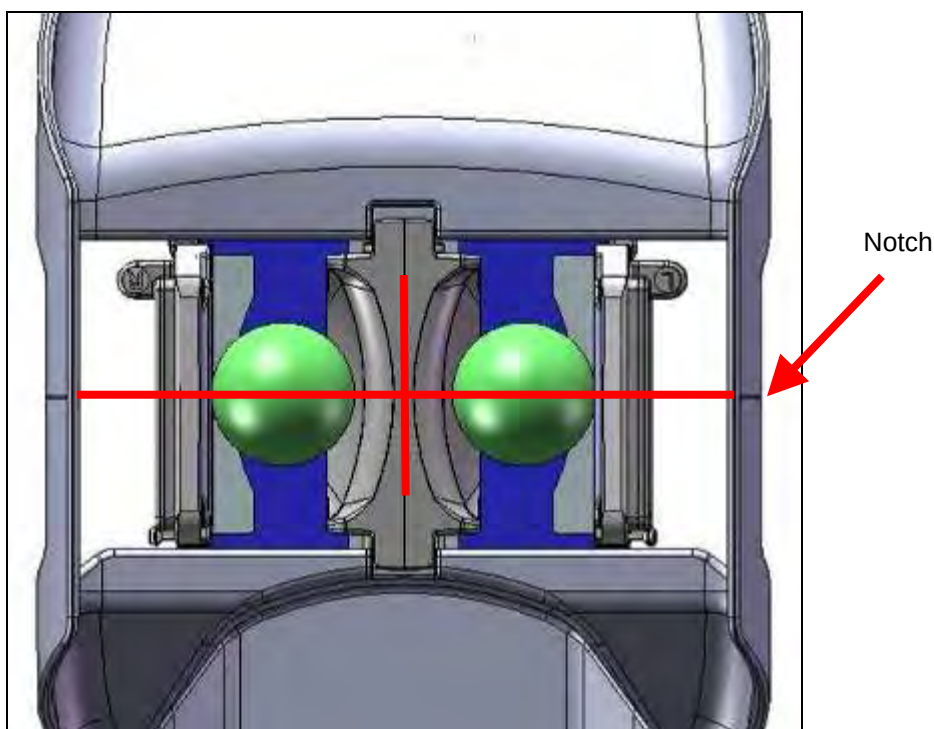

Figure 66: 16 Channel - Landmark Phantoms
5. Landmark using the notch on the edge of the patient support as shown in Figure 66.